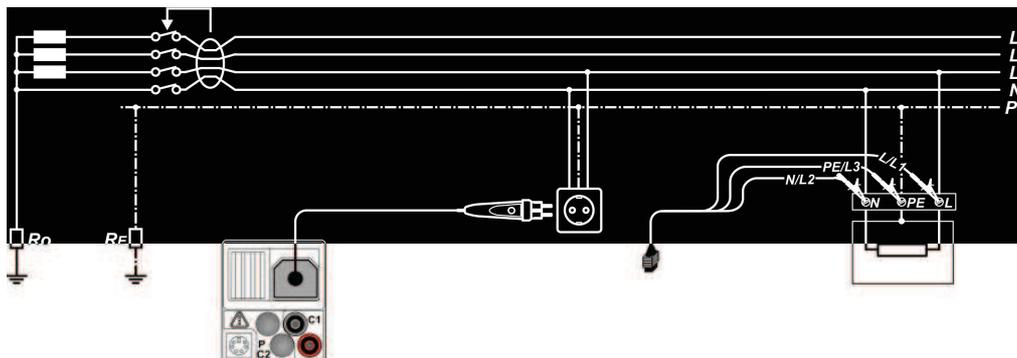

Figure 5.17: Connection of the optional "Commander" test plug (044149) and the three-wire test cable
- Connect the test cables to the test object (see figure 5.17).
- ❑ Connect the test cables to the test object (see figure 5.17).
<ul style="list-style-type: none"> □ Select the F/RCD function by means of the function selector switch. □ Set the sub-function to AUTO. □ Set the testing parameters. □ Connect the test cables to the test object (see figure 5.17). □ Press the "TEST" key to start the measurement. 	Start of test